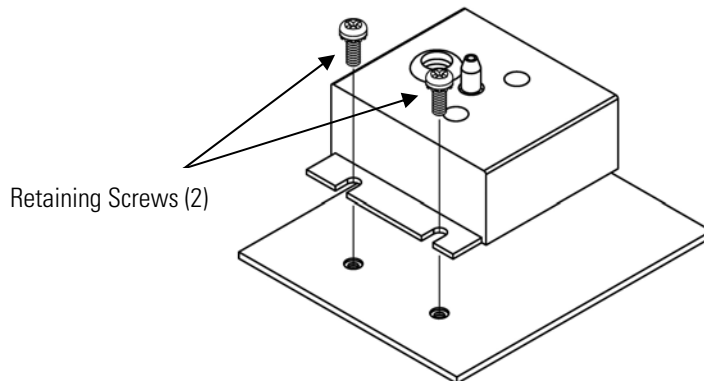

Figure 7–11. Replacing the Pressure Transducer
4. Remove the two pressure transducer assembly retaining screws and remove the pressure transducer assembly (Figure 7–11).